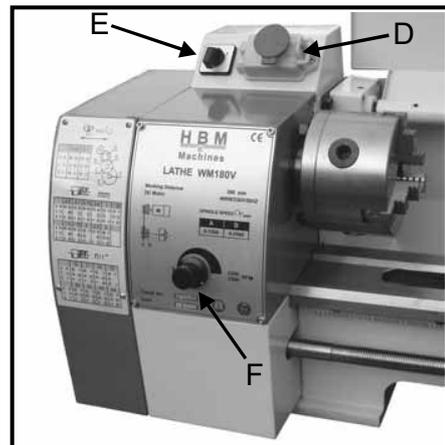

Fig. 9
1. Emergency Button ON/OFF Switch (D, Fig. 9)
2. Change-over Switch (E, Fig. 9)
3. Variable Speed Control Switch (F, Fig. 9)